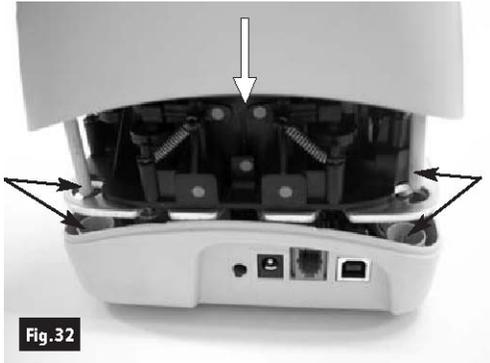

Fig. 32
- 1 Insert the outer cover by aligning the two shafts with the holes in the bottom cover of the unit (Fig.32). Insert the two teeth located on each side of the outer cover in the bottom cover and lock it (Fig.33 and 34).